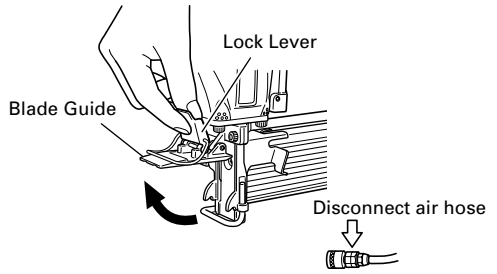

Fig. 8
- (1) Remove all staples.
- (2) Release the lock lever and open the blade guide. (See Fig. 8)